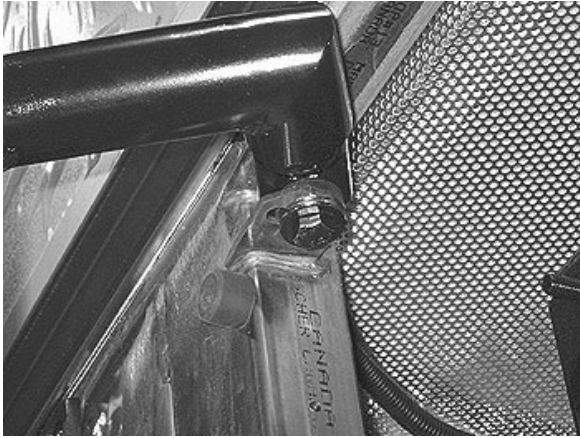

FIGURE 88: DEPTH ADJUSTMENT
3. If the door is too far inside, adjust using a rubber mallet (Refer to Figure 88).